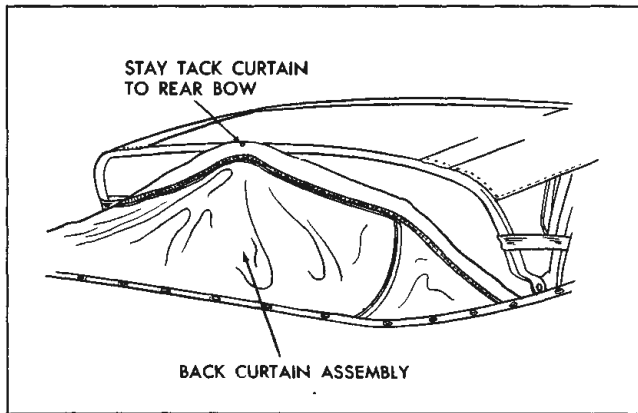

Fig. 22-42 Stay Tacking Back Curtain
16. Secure back curtain assembly with one tack to rear bow to prevent damage to plastic sheet (Fig. 22-42).